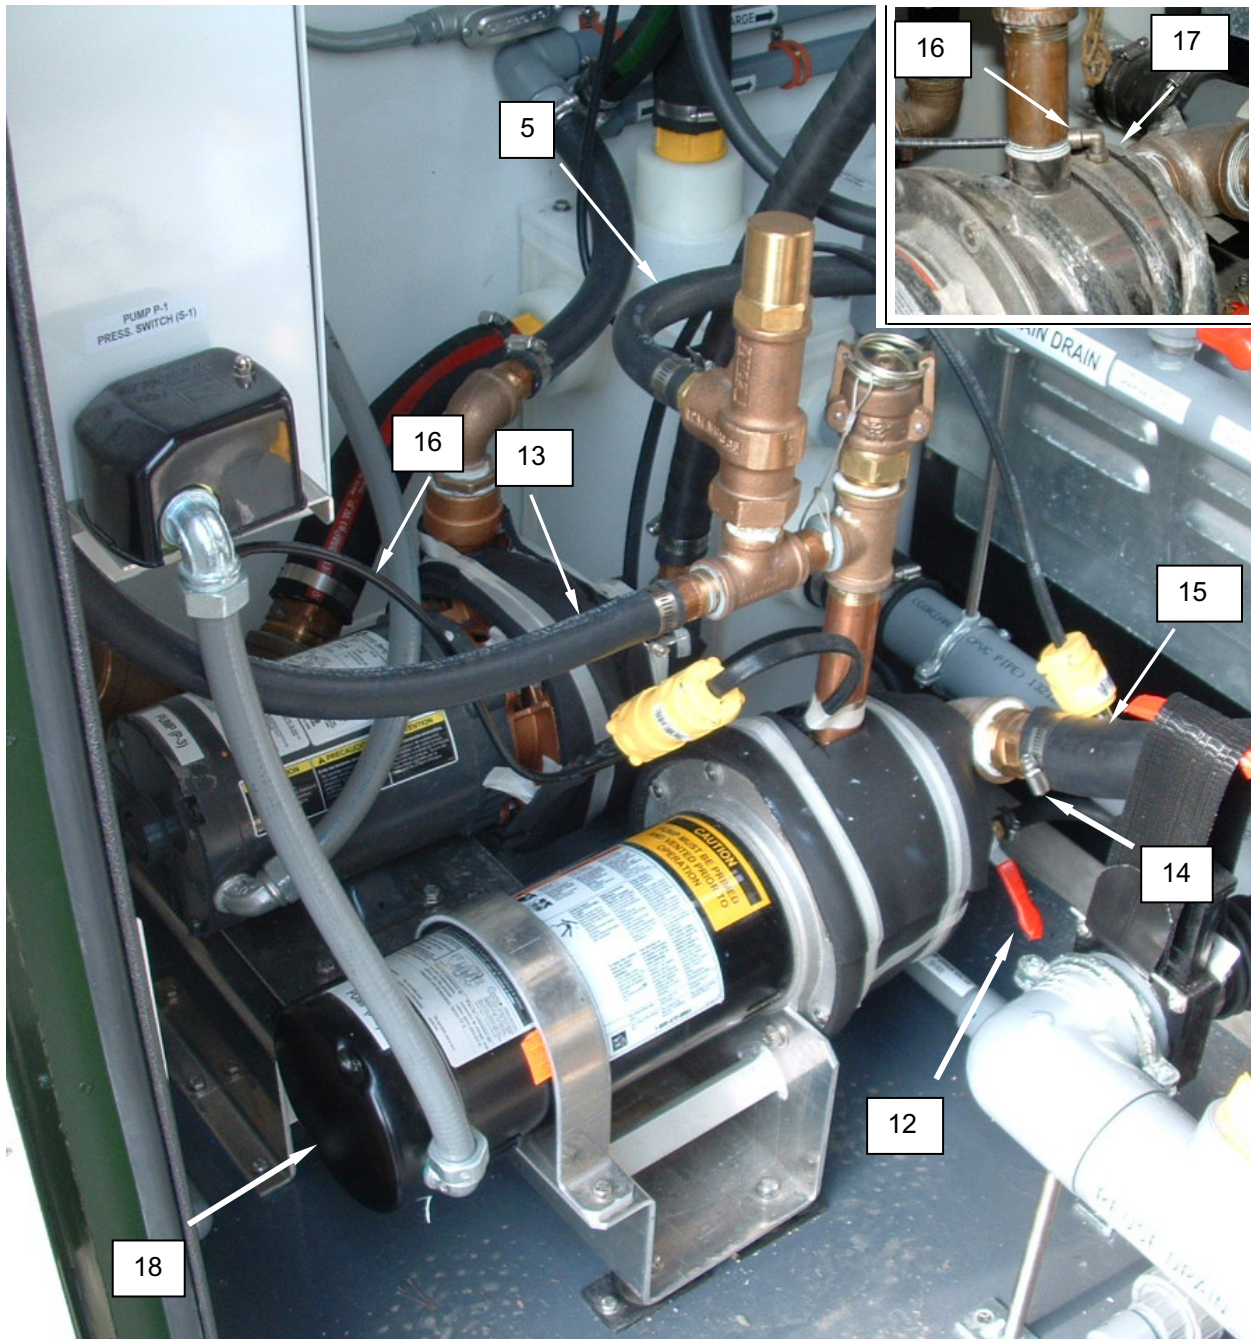

Figure 4. Replace the Pump Seal.
2. Open P-1 pump drain valve (**Figure 4, Item 12**) and allow pump to drain
4. Loosen hose clamp retaining discharge hose (**Figure 4, Item 13**) and remove hose.
5. Loosen hose clamp retaining pressure relief valve hose (**Figure 4, Item 5**), and remove hose.
6. Loosen hose clamp retaining drain hose (**Figure 4, Item 14**) and remove hose.
7. Loosen hose clamp retaining pump suction hose (**Figure 4, Item 15**) and remove hose.
8. Loosen compression nut retaining pressure switch tubing (**Figure 4, Item 16**) to pump casing (**Figure 4, Item 17**), and remove tubing.
9. Remove the screws retaining the pump end cover (**Figure 4, Item 18**), and remove the pump end cover.